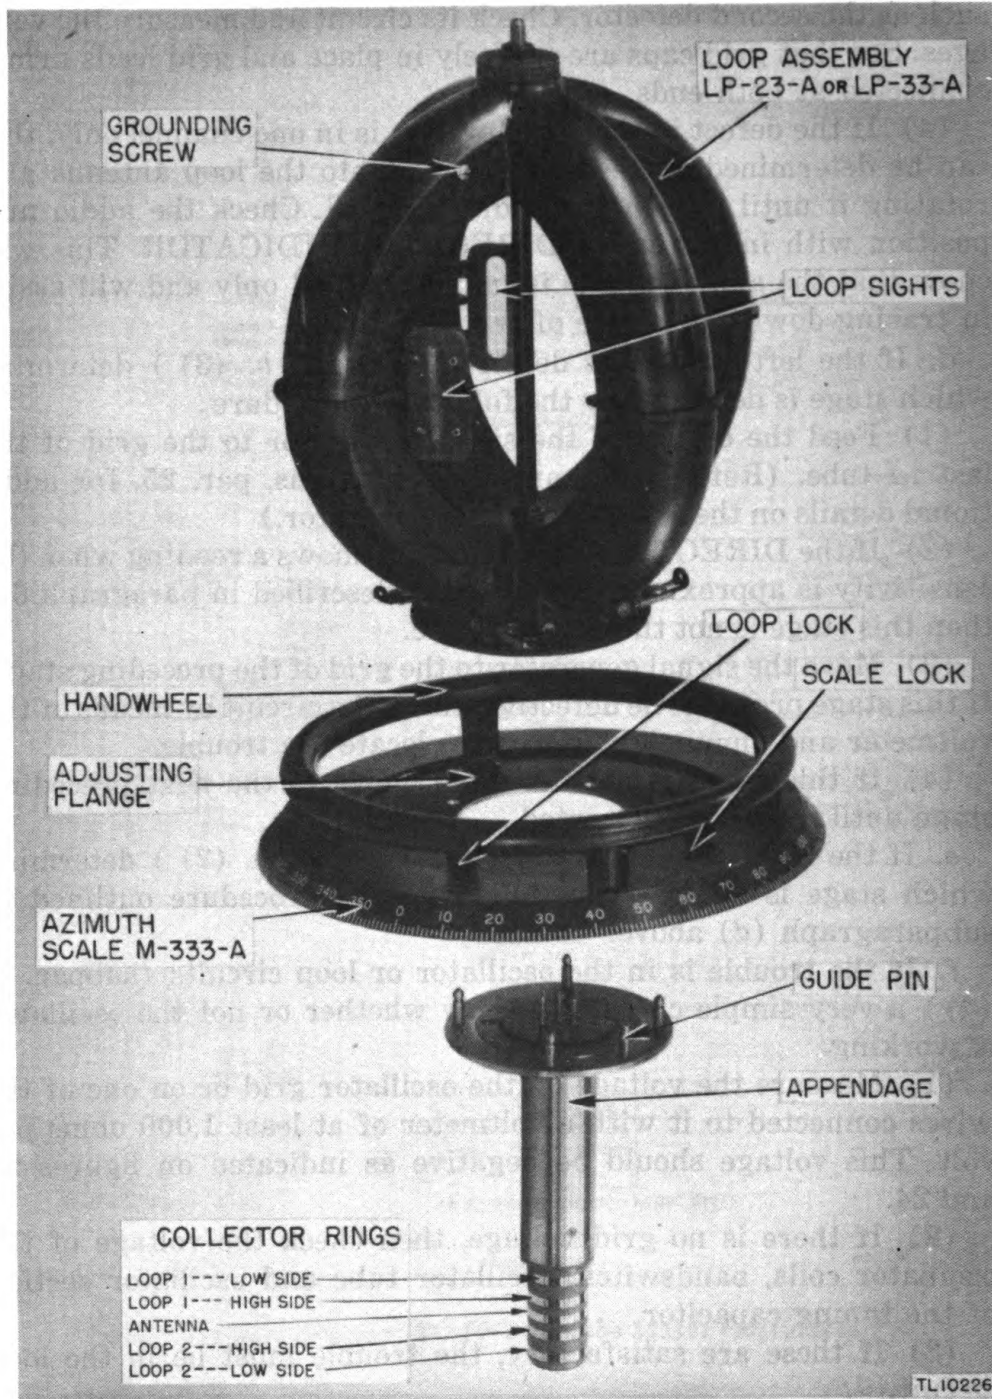

Figure 26. Loop assembly and appendage.
a. To remove commutator mechanism.—(1) Remove the loop by releasing the four slide fasteners at the base of the loop.
(2) Remove the azimuth scale (fig. 26).
(3) Remove the top cover by unfastening the four cams. The cams are in an open position when the engraved arrows on the knurled knobs face directly to the rear of the set. In order to release the knobs turn them in a counterclockwise direction.